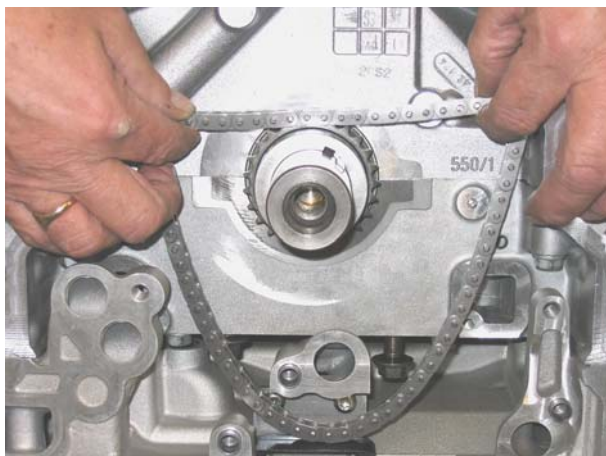

Figure 3
- Release chain from oil pump drive sprocket, remove chain (refer to Figure 3).